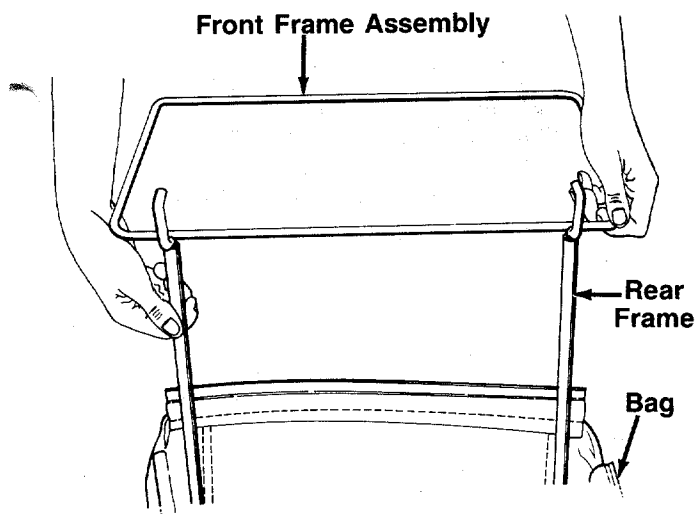

FIGURE 7.
3. Join the rear frame and front frame assembly as shown in figure 7.